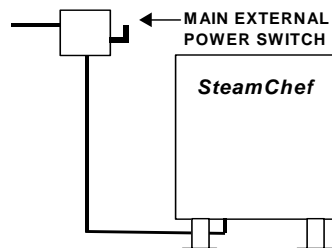

Figure 3-7
3. A main external disconnect switch should be installed near the SteamChef as shown in Figure 3-7.
- The fuse or breaker and disconnect switch combination is called the “Main External Power Switch.” See Figure 3-7.